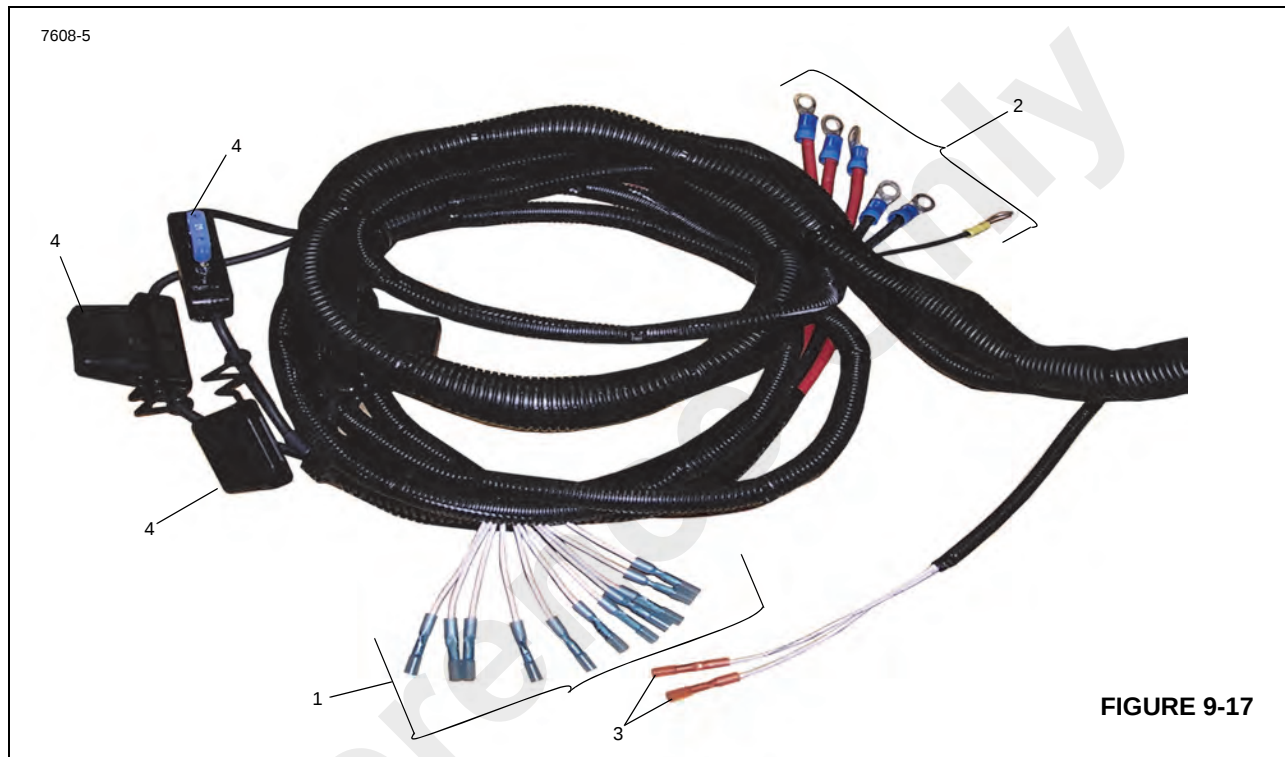

FIGURE 9-17
- Use Item 3, Figure 9-17 to connect to the truck front lights. Connect wire 1403 to connect to truck light harness and connector 51A to truck ground.
NOTE: The type of throttle supplied with the truck determines if three leads or six leads (1, Figure 9-17) are required.
Truck Interface Harness (Item #1 - Figure 9-17)
Truck Battery Harness (Item #2 - Figure 9-17)
Crane Front Marker Lights (Item #3 - Figure 9-17)
Truck Battery Harness (Item #4 - Figure 9-17)
Crane Rear Marker Lights (Not Shown in Figure 9-17)